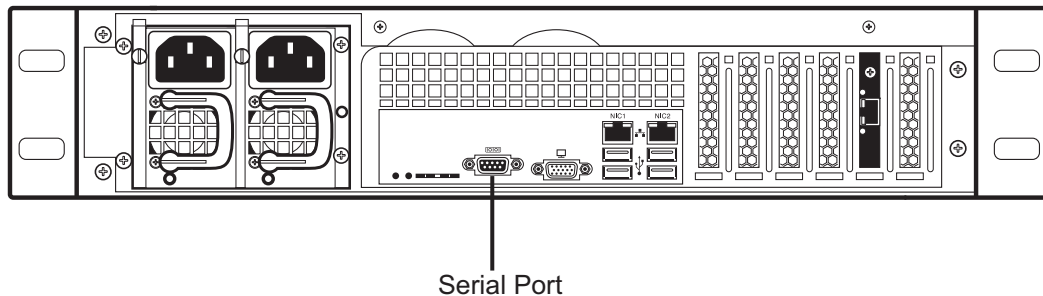

Figure 3.1 Tdev Development Platform Serial Port Connection
1. Connect a male-male DB9 cross-connect cable between the DB9 serial port of your computer and the DB9 serial port of the TMP800-CTRL. See figure 3.1 on page 42.